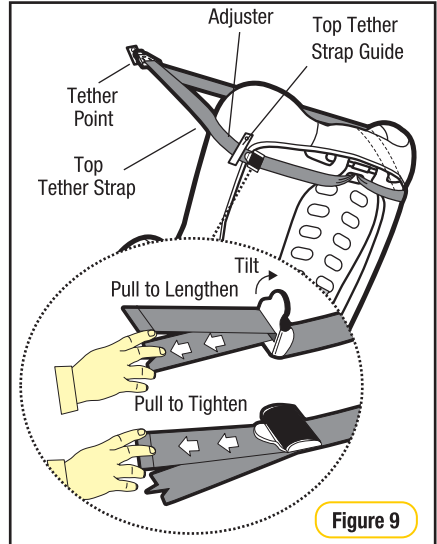

Figure 9
Step 7: Pull to tighten to remove all the slack from the upper anchorage strap. Do not overtighten as this could cause the restraint to lift off the vehicle seat (refer to Figure 9).